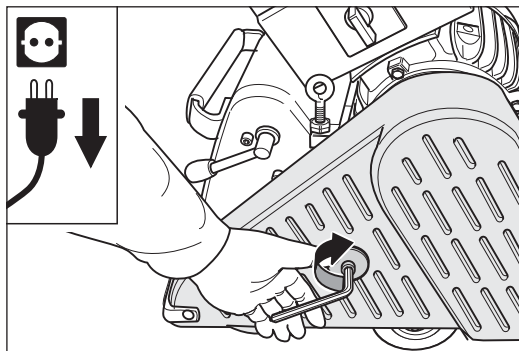

Fig. 56 Close the belt guard.
- 8 Close the belt guard (Fig. 56).